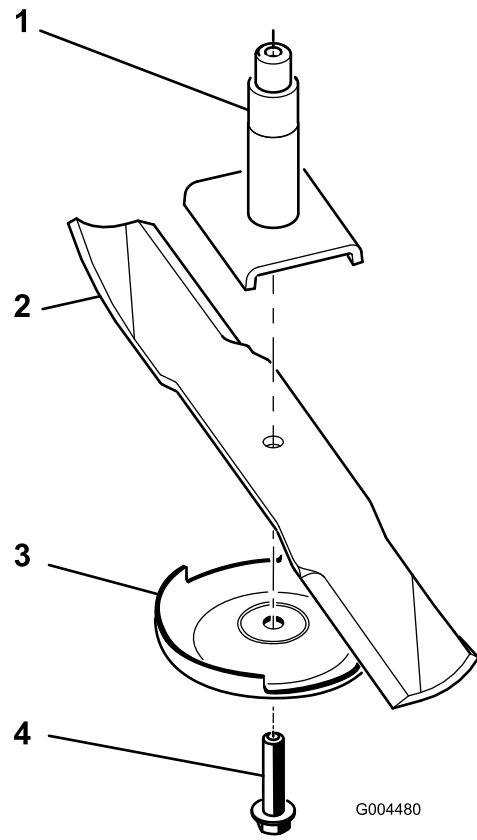

Figure 71
Note: If the blade stays in a horizontal position, the blade is balanced and can be used. If the blade is not balanced, file some metal off the end of the sail area only (Figure 71). Repeat this procedure until the blade is balanced.
1. Install the blade onto the spindle shaft (Figure 71).
2. Install the anti-scalp plate and blade bolt (Figure 71).